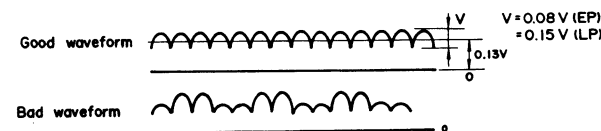

Figure 7-3
#### 2) 4-COIL CURRENT (Refer to Figures 7-3 and 8-2)
2. Adjust the semi-variable resistors (VR6 and 7) so that good waveform indicated in Figure 7-3.